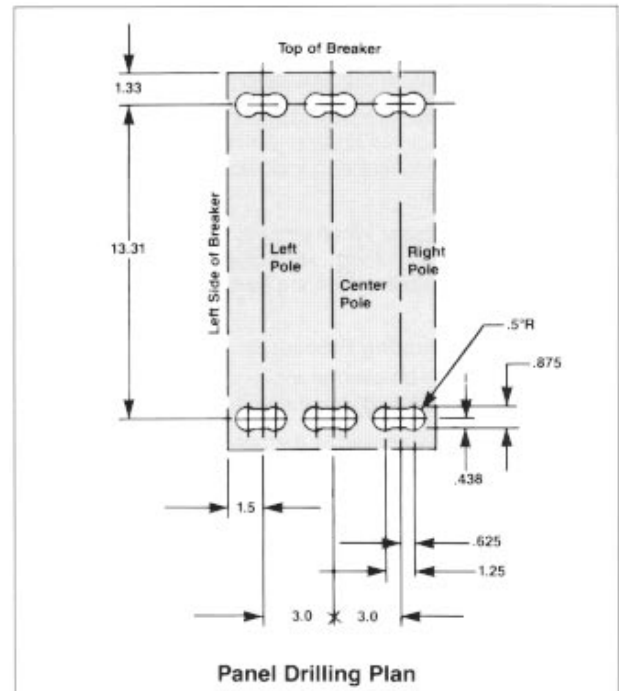

Figure 1
- Drill mounting panel as shown in drilling plan, Figure 1. This user provided panel must be made from a material acceptable for supporting uninsulated live parts and have adequate strength to support the circuit breaker. Thickness should be 1/4 in. min. and 1 in. max.
- Figures 1 and 2 show dimensioning information which can be used to plan the circuit breaker termination interface.